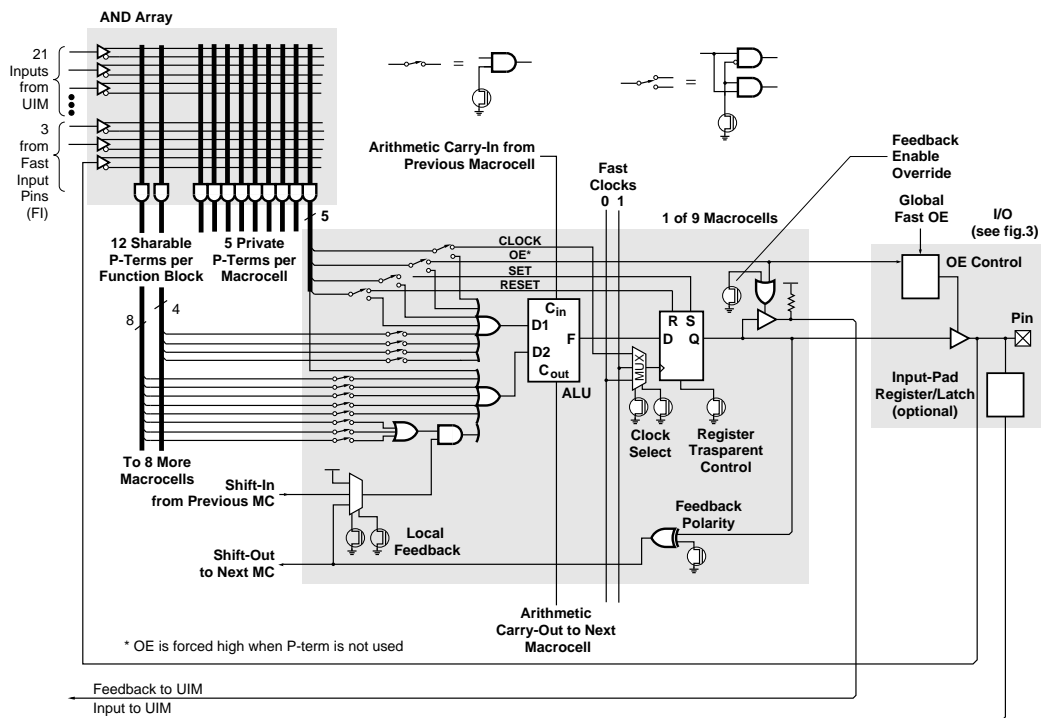

Figure 2: FB and macrocell Schematic
The XC7236A contains 36 macrocells with identical structure, grouped into four FBs of nine macrocells each. **Figure 2** shows the macrocell structure. Each macrocell is driven by product terms derived from a programmable AND array in the FB. The AND array in each FB receives 21 signals and their complements from the UIM. In three FBs, the AND array receives three additional inputs and their complements directly from FastInput (FI) pins, thus offering faster logic paths.